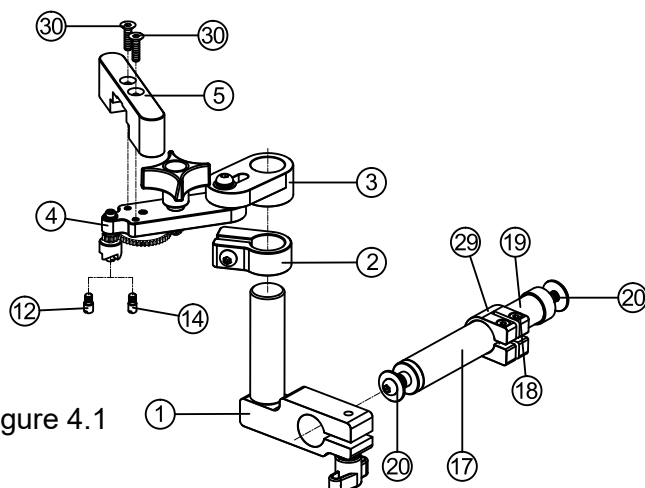
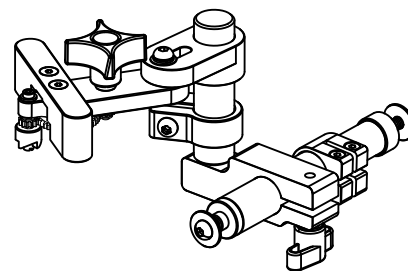

Figure 4.1
Figure 4.2
1. Use countersunk flat head screws (30) to assemble the locking plate (5) onto the main body (4).
2. Use a flathead screwdriver (SL4) to install the pilot bolt (PM Ø4.9 (12) or FM Ø4.1 (14)) onto the main body for positioning.
3. As shown in Figure 4.1, assemble the related parts in sequence to form the assembly shown in Figure 4.2.